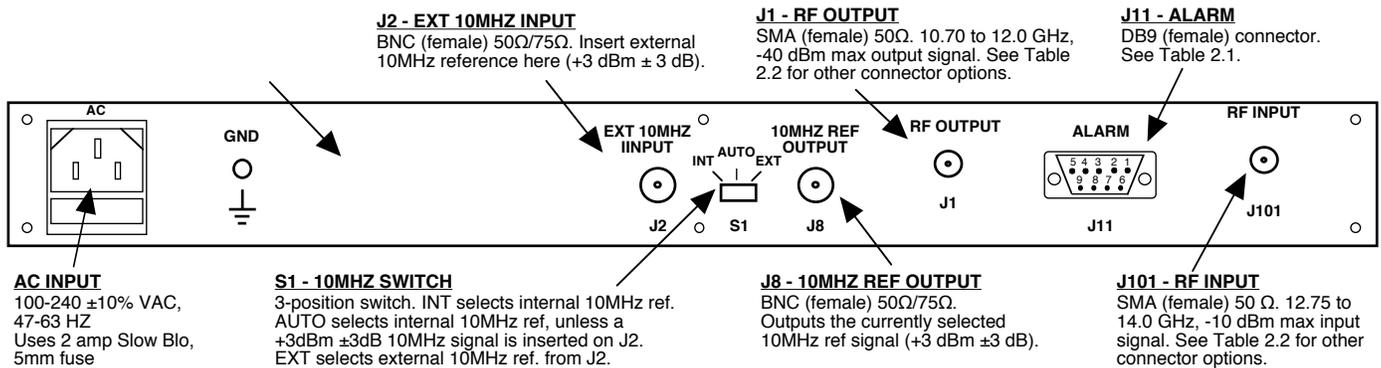

FIGURE 2.1 2116-140T120 Rear Panel I/O's
Figure 2.1 shows the input and output connectors on the rear panel.
1. Connect a -30 dBm to -10 dBm signal to RF INPUT (J101) (Figure 2.1).
5. Select either INT. (for internal 10MHz ref), AUTO (for internal 10MHz ref UNLESS an external 10MHz, 3 dBm signal is connected to J2), or EXT (for external 10MHz, 3 dBm ref that is inserted at J2) using the rear panel 3-way switch, S1 (Figure 2.1).
7. Check that a 10MHz, 3 dBm \pm 3 dB signal is present at the 10MHz REF OUTPUT (J8) (Figure 2.1).